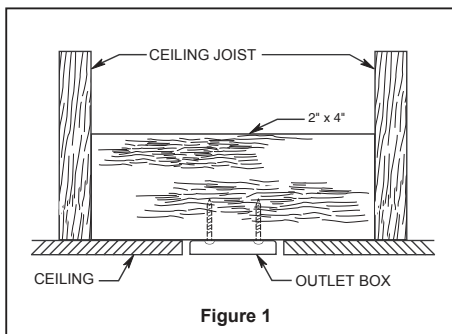
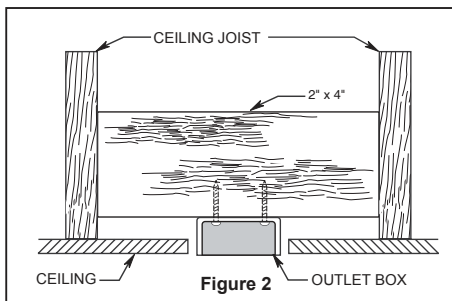
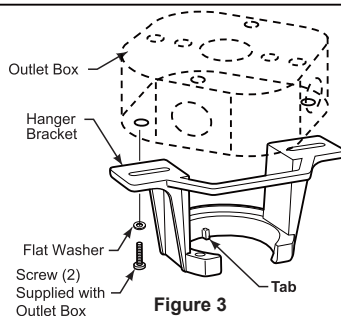

Figure 1
Figure 2
Figure 3
Your new ceiling fan will require a grounded electrical supply line of 120 volts AC, 60 HZ, 15 Amp Circuit. Electrical code requires use of a fan-rated outlet box to support the extra weight and motion associated with a ceiling fan. A fan-rated box will be labeled as such and typically supports up to a 70lb ceiling fan. Fan-Rated Outlet Boxes vary in ratings and design. Ensure the ratings of your ceiling fan outlet box meet the requirements for the ceiling fan being installed. Figure 1, Figure 2 and Figure 3 depicts different structural configurations that may be used for mounting the outlet box.
Low profile box (Figure 1)
Deep box (Figure 2)
Deep box with brace (Figure 3)
3. Remove the three stabilizer tabs and plastic bag from the motor. Discard the stabilizer tabs. (Figure 3)
1. Securely attach the hanger bracket to the outlet box (not included) using the outlet box screws and washers supplied with the outlet box. (Figure 3)
2. Slide the receiver into the hanger bracket before wiring as shown in figure 3.
- ☐ 3. Remove one of the three screws in the light kit. Retain the screw for later and slightly loosen the remaining two screws. (Figure 3)
- 3. Remove the battery cover from remote control by screwdriver and retain the screw for later. (Figure 3)